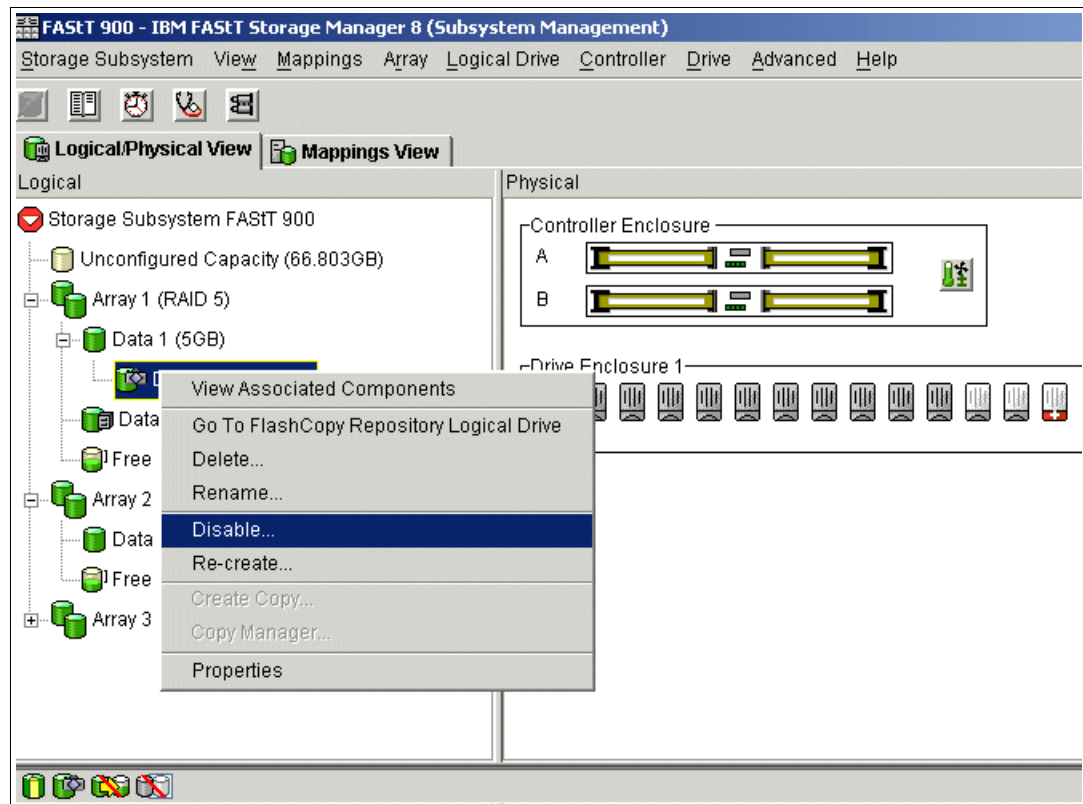

Figure 7-36 FlashCopy Logical Drive - Disable
1. Select the FlashCopy Logical Drive. Right-click and select **Disable**, as shown in Figure 7-36.